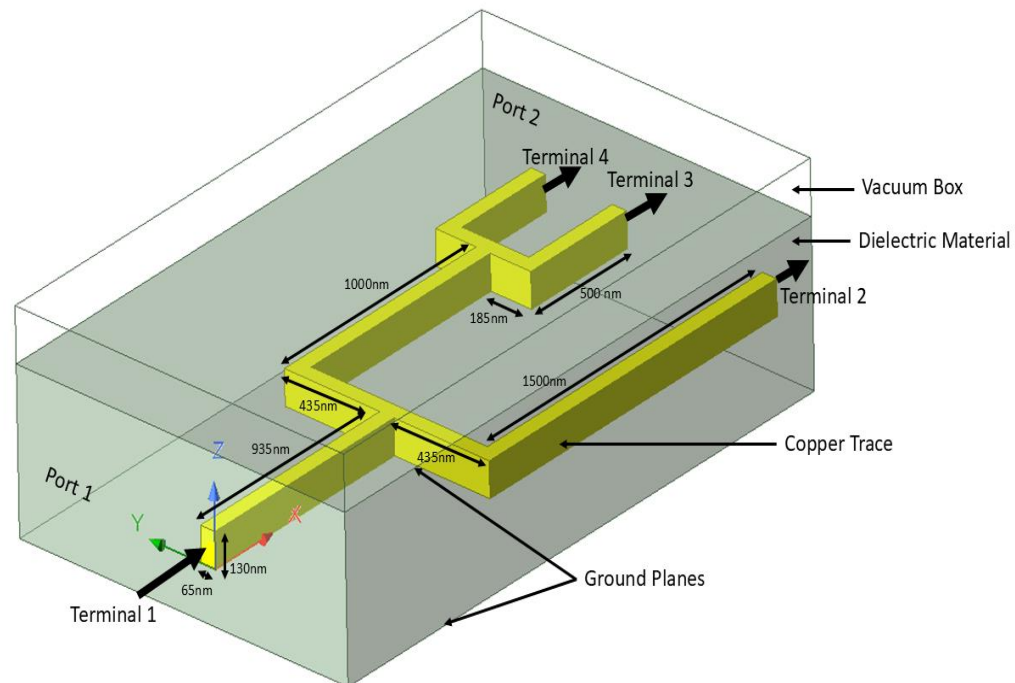

Fig.1: Model of the copper interconnect, surrounded by the dielectric and ground planes.
1. Model and simulate the copper interconnect design in the stripline topology as shown in Fig. 1, in the HFSS field solver and calculate the S- parameter matrix. The interconnect is inserted inside the silicon dioxide dielectric material. Simulation setup frequency sweep is set to 1-10 GHz. Find the values of S parameters S_{11} , S_{21} , S_{31} and S_{41} at 5 GHz frequency.